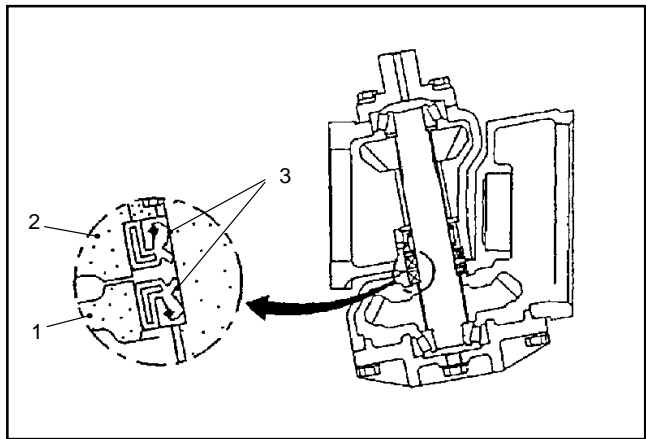

Figure 17
1. Coat new shaft seals with grease and install in axle case and bevel gear case as shown (Fig. 17).